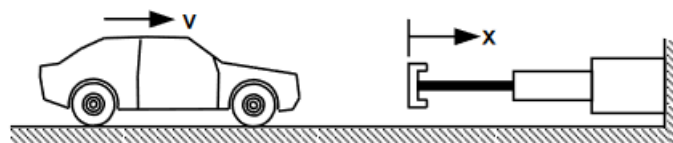

Figure 5
- 5) Figure 5 shows a safety bumper placed at the end of a racetrack to stop out-of-control vehicles. The force that the bumper applies to the vehicle is given by $F = Kv^3(x + 1)^3$ where $K = 32$ kg-s/m⁵ (a constant) x = displacement of the front edge of the bumper v = velocity of the front edge of the bumper. A vehicle of mass 2000 kg hits the bumper at a speed of 100 km/h. Write a MATLAB program to determine and plot the velocity of the vehicle as a function of x for $0 \leq x \leq 5$ m.